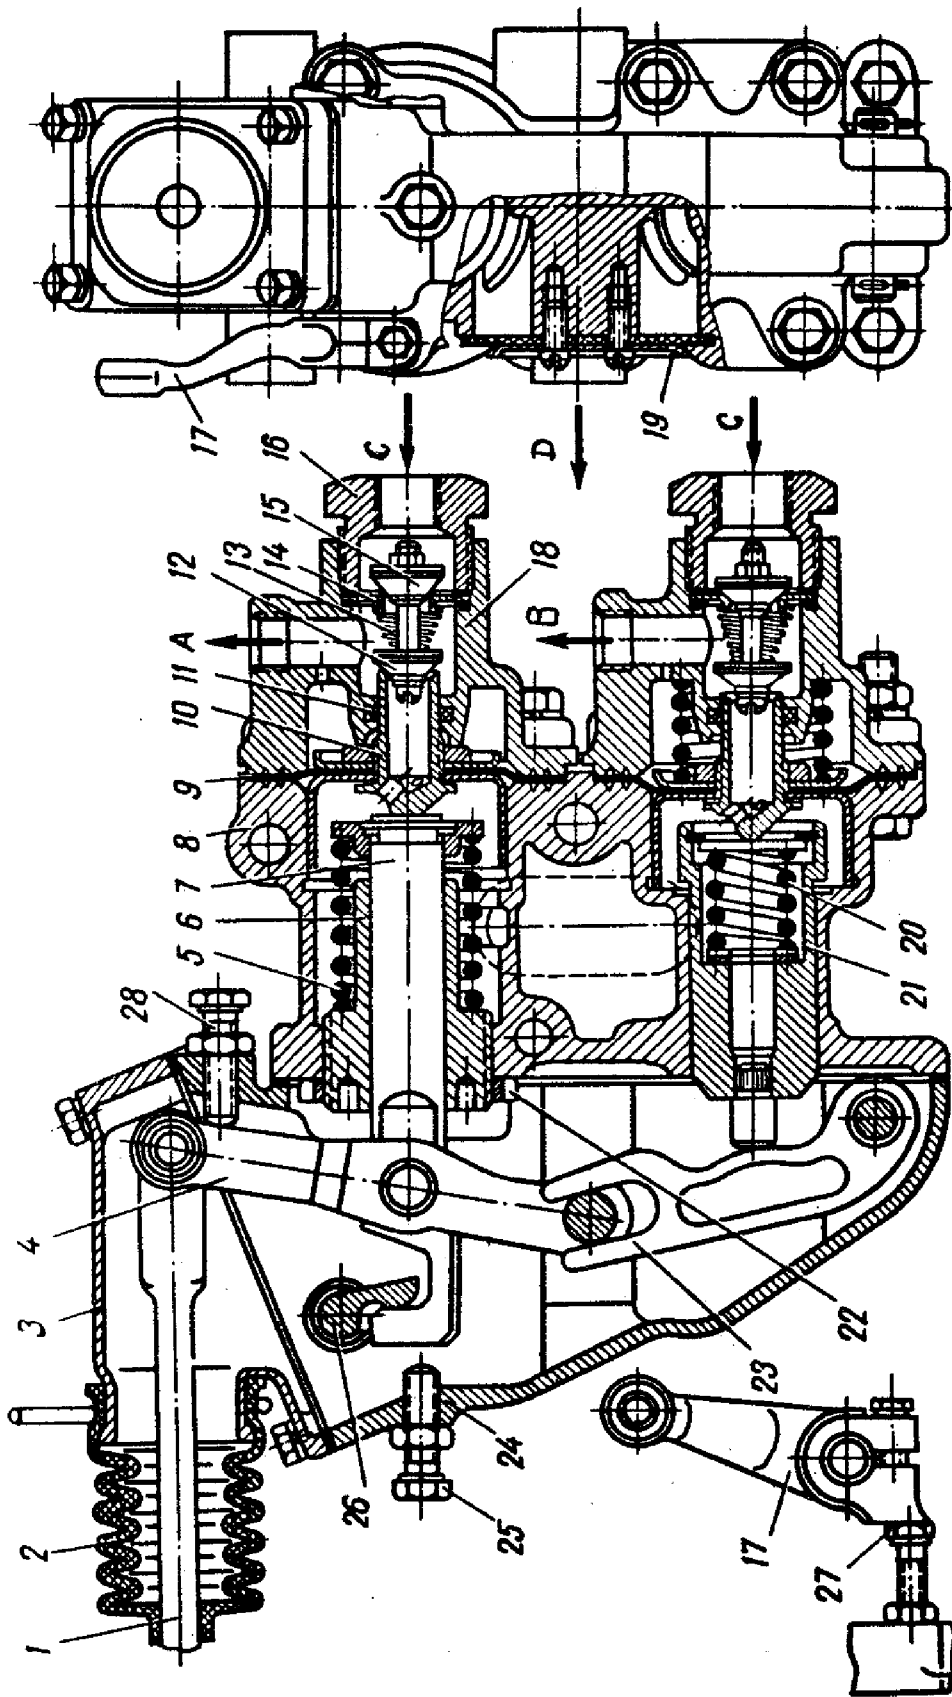

FIG. 58. BRAKE VALVE
2. Unscrew the connection fitting from plug 16 (Fig.58).